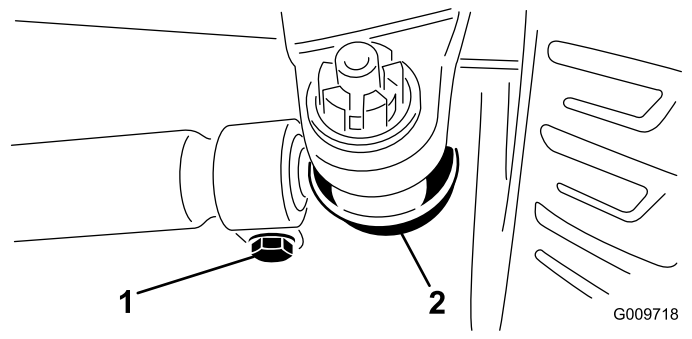

Figure 50
3. Loosen the clamps at both ends of the tie rods (Figure 50).
2. To adjust, remove the cotter pin and nut from either tie-rod ball joint (Figure 50) and remove the tie-rod ball joint from the axle-case support.